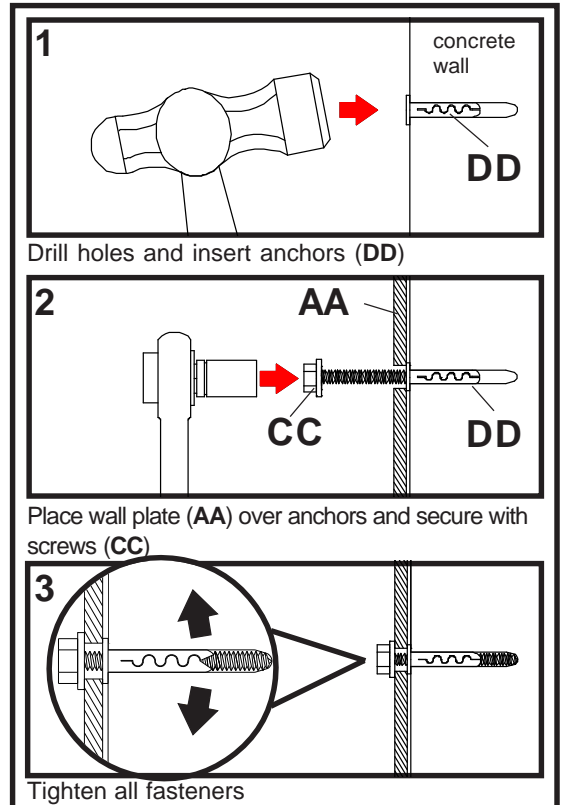

fig 1.4
1 Position wall plate (AA) on wall so that upper slots are 4-5/8" above desired center of screen. Use wall plate (AA), making sure that it is level, as a template to mark holes. Drill four 1/4" (6 mm) dia. holes to a minimum depth of 2-1/2" (64 mm). Concrete must be 2000 psi density minimum. Insert anchors (DD) in holes flush with wall as shown in figure 1.4. Place wall plate (AA) over anchors and secure with #14 x 2-1/2" (6 mm x 65 mm) wood screws (CC) as shown in figure 1.5. Make sure wall plate is level and tighten all fasteners.